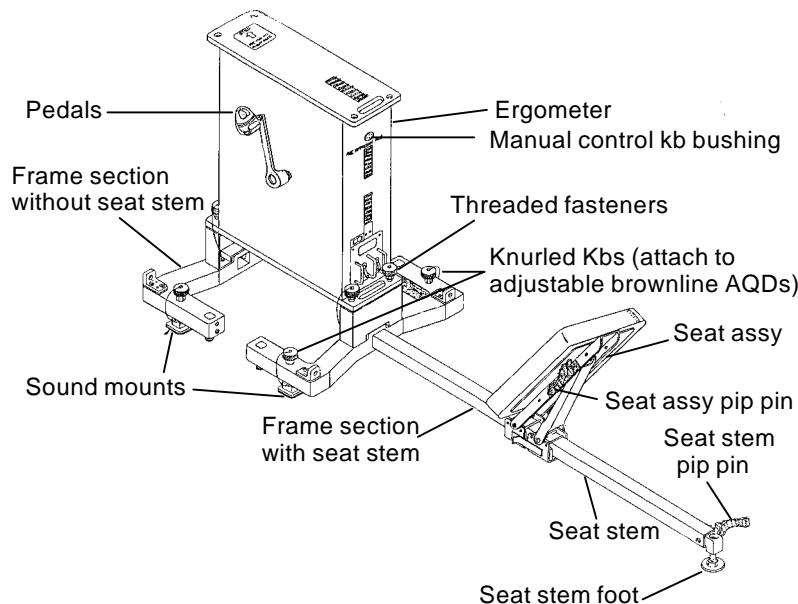

Figure 3–2.– Ergometer.
7. Mount both frame sections loosely to AQDs on seat floor studs (fig 3–2) using Knurled Kbs (four)
launch/landing config (fig 3–3)